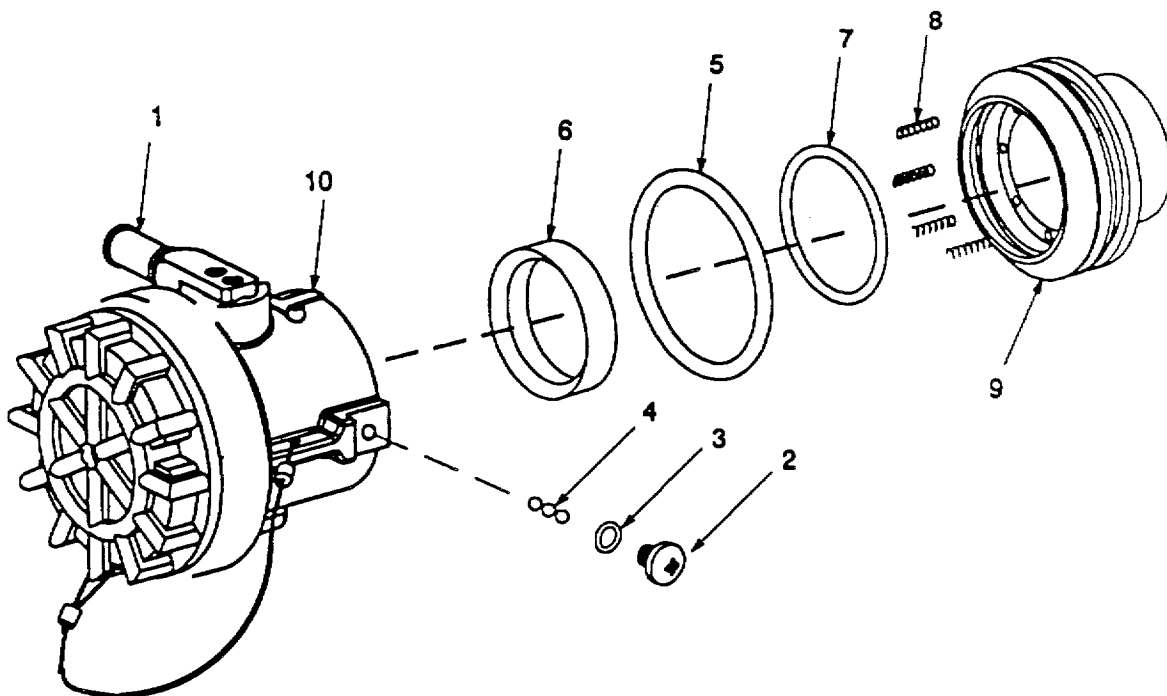
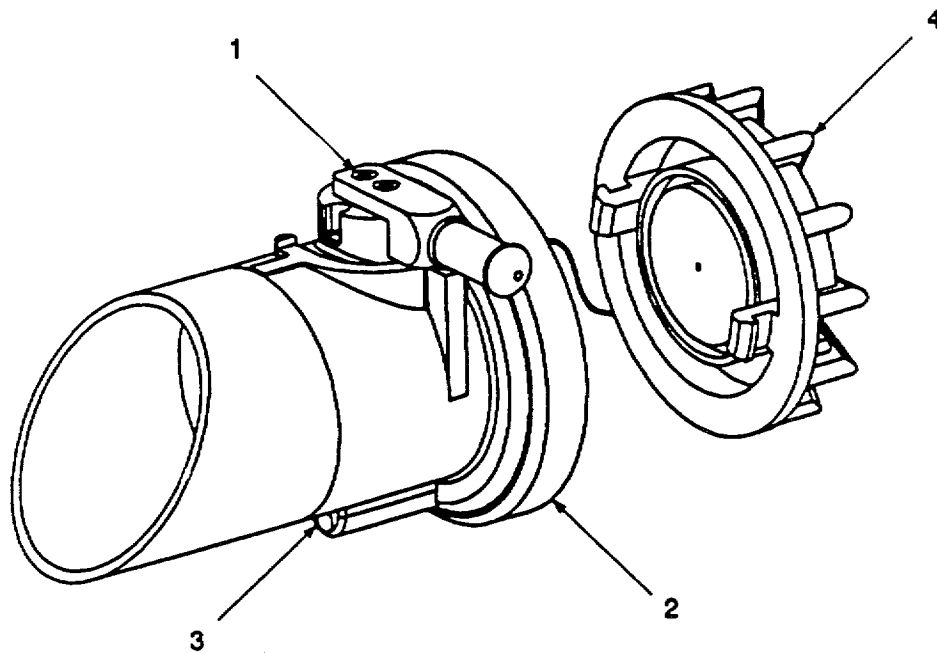

Figure 4-12. Valved Dry Break Coupling Installation.
Figure 4-13. Valved Dry Break Coupling Adjustment,
- (10) Install grip (8), spring (7) and screw (6) on arm (9).
- (11) Place arm (9) and attached parts in the CLOSED position on body (21).
- (12) Secure arm (9) to stem (11) with two self-locking screws (5).
- (13) Install seal (4) in seat on body (21).
- (14) Install bumper (3) on body (21).
- (15) Install seal (1) in seat on dust cap (2).
- (16) Connect dust cap (2) to body (21).
g. Installation. Refer to figure 4-12.
- (1) Lightly coat preformed packings (3, 5 and 7) with silicone compound.
- (2) Install eight springs (8), preformed packing (7) and ball seal (6) in fitting (9).
- (3) Install preformed packing (5) on fitting (9).
- (4) Push coupling (10) onto fitting (9).
- (5) Position coupling (10) so that opening for balls (4) is pointing up.
- (6) While pressing coupling (10) onto fitting (9), install 41 balls (4). Rotate coupling back and forth on fitting to aid installation.
- (7) Install preformed packing (3) on screw (2).
- (8) Install screw on coupling (10).
h. Adjustment. Refer to figure 4-13.